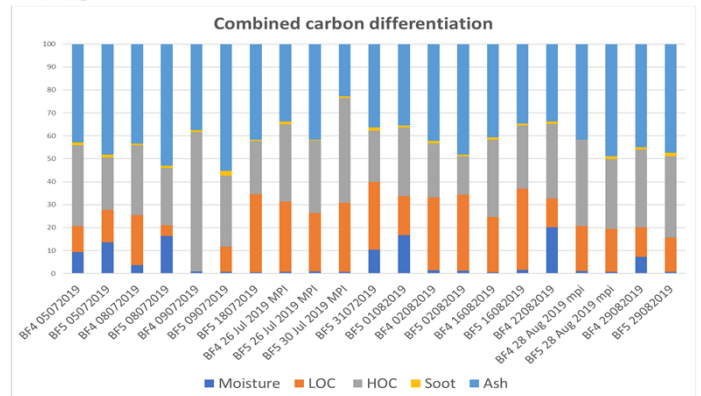

Figure 5: Flue dust constituents as per thermogravimetric.
- Figure 5 shows the constituents of flue dust on a given day